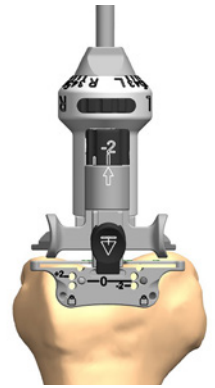

Figure 8
1. With the Adjustable Valgus Bridge dial set to 0mm, using non-headed 65mm SPEED PIN(s), pin the distal femoral cutting block to the anterior femur using the holes marked '0'. Once adequate distal femoral resection is noted, headed or non-headed 65mm SPEED PIN(s) should be placed in one or both oblique pin holes for additional stability (Figure 8).